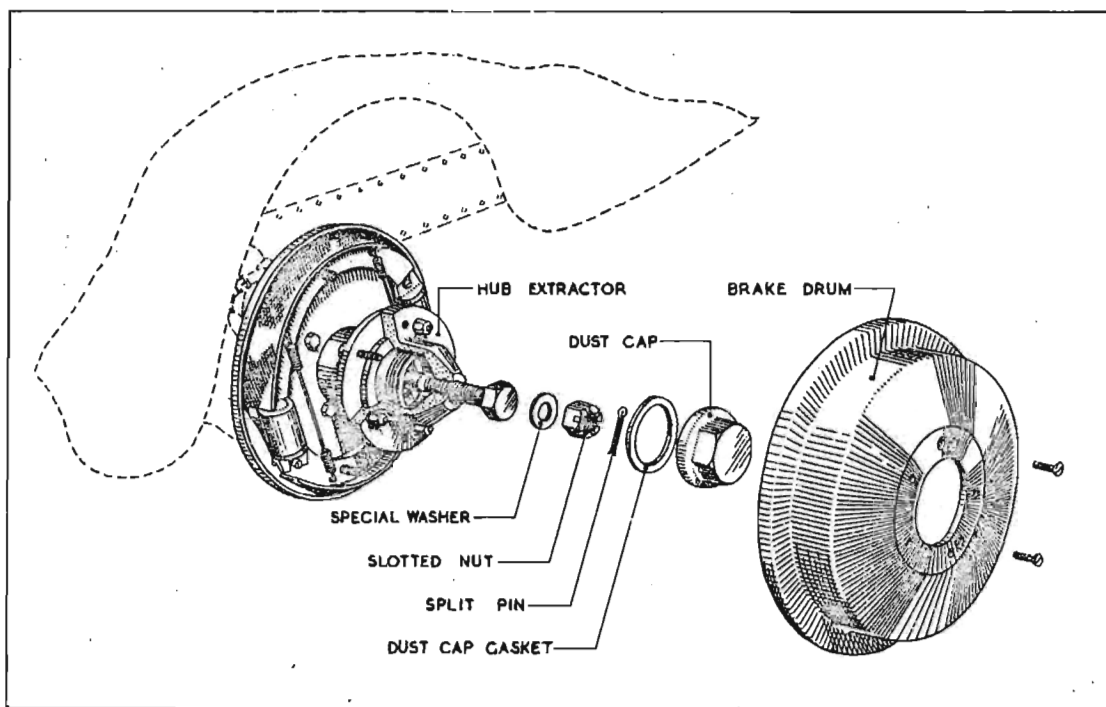

Fig. 1.
6. Fit the hub extractor tool T.F.N. 5009 on the five studs, and secure it by the five wheel nuts, (see fig. 1).